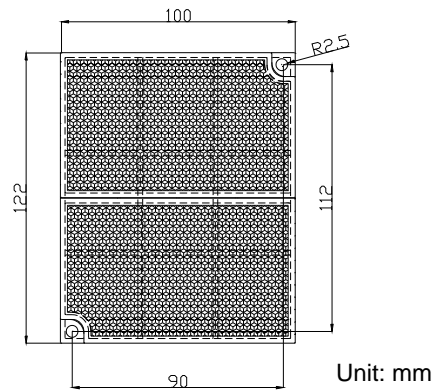
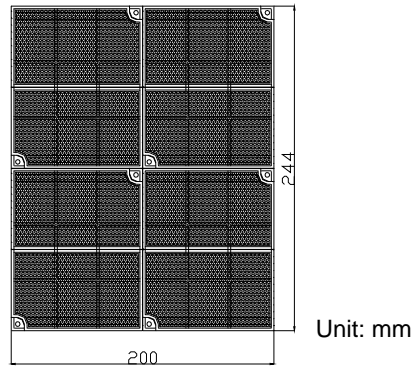

Fig. 11a
Fig. 11b
- 3) Mounting the Reflector:** The reflector is mounted opposite the detector but in line with it. When the distance between the detector and the reflector is more than 8m (less than or equal to 40m), one reflector is enough. When the distance is more than 40m (less or equal to 100m), four reflectors are needed. Two $\varnothing 6$ plastic expansion bolts are needed to fix a single reflector. Mounting size is shown in Fig.11a. If four reflectors are needed, place them seamlessly as shown in Fig. 11b.